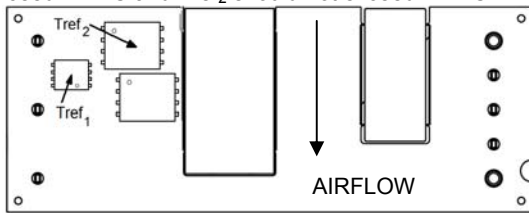

Figure 13. T_{ref} Temperature Measurement Location for Open Frame Module.
To provide protection under certain fault conditions, the unit is equipped with a thermal shutdown circuit. The unit will shutdown if the thermal reference point T_{ref} (Figure 13), exceeds 128 $^{\circ}$ C (typical), but the thermal shutdown is not intended as a guarantee that the unit will survive temperatures beyond its rating. The module can be restarted by cycling the dc input power for at least one second or by toggling the remote on/off signal for at least one second. If the auto-restart option (4) is ordered, the module will automatically restart upon cool-down to a safe temperature.
The thermal reference points, T_{ref1} and T_{ref2} used in the specifications for open frame modules are shown in Figure 13. For reliable operation T_{ref1} should not exceed 122°C and T_{ref2} should not exceed 124°C